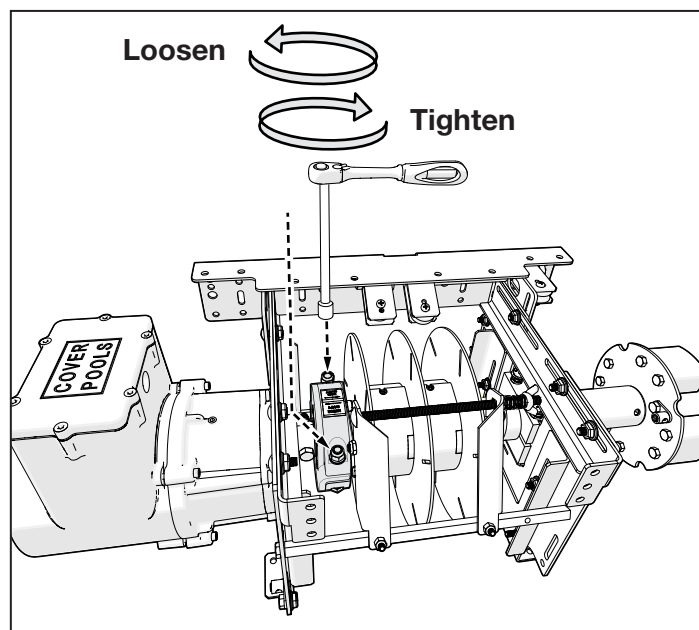

Figure 6. Slip Clutch Adjustment
1. Use a 1/2" socket, 6" socket extension and a ratchet handle. Tighten both bolts equally by turning nuts clockwise in 1/8 turn increments. See Figure 6.